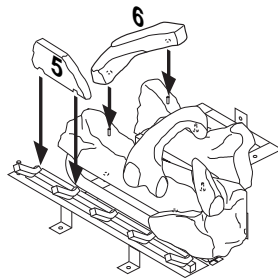

Figure 48 - Installing Logs No. 5 and No. 6
5. Place log #5 (base log) onto front left part of grate making sure notches fit over prongs of grate. See Figure 48, page 26.
- Place log #6 (left log) onto two pins on left side of back and front log. See Figure 48.